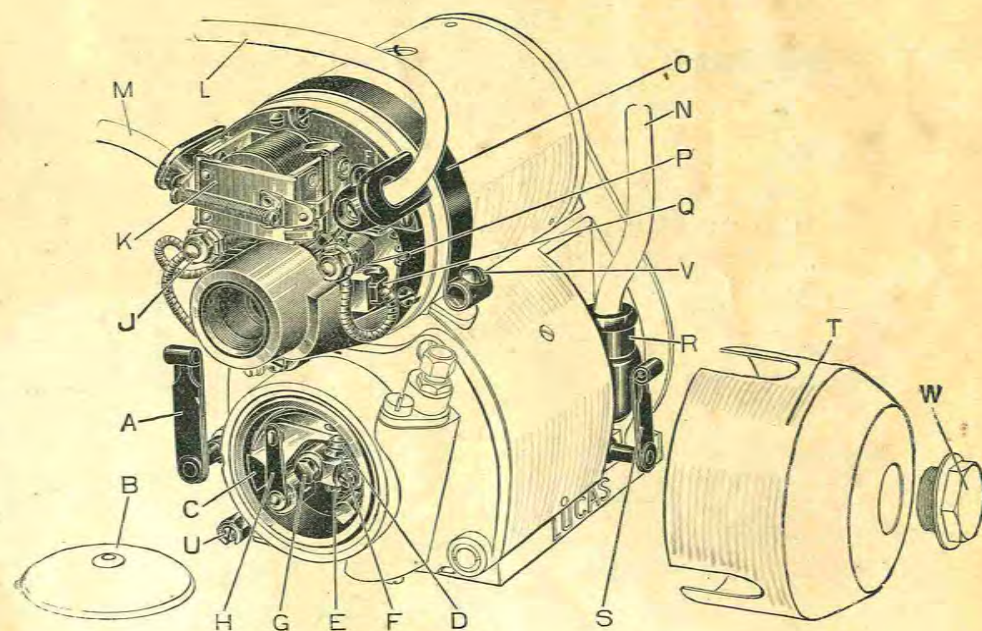

Fig. 1. VIEW OF "MAGDYNO."
Cleaning. Occasionally examine the contact breaker, the contacts 'D' (Fig. 1) must be kept clean and free from any traces of oil. If the contacts are burned or blackened they may be cleaned as follows:
Next remove the pick-up 'R' (Fig. 1). Wipe the moulding clean with a dry cloth. See that the carbon brush moves freely in its holder, being careful not to stretch the brush spring unduly.
Adjustment of the Contact Breaker. The contacts only need adjustment at long intervals, and unless the gap varies considerably from the gauge (12 thousandths), the owner is warned that it is not desirable to alter the setting. To adjust, turn the engine slowly by hand until the points are seen to be fully opened. Then slacken the locking nut 'E' (Fig. 1), and rotate the contact screw by its hexagon head until the gap is set to the gauge on the magneto spanner. After the adjustment tighten the locking nut.
4. Remove contact breaker cover and turn magneto spindle in its normal direction of rotation until the fibre heel 'C' (Fig. 1) begins to rise on the inclined plane of the cam ring just sufficiently to separate the points 'D.' This position is the firing point, and the magneto sprocket should be permanently fixed in this position.